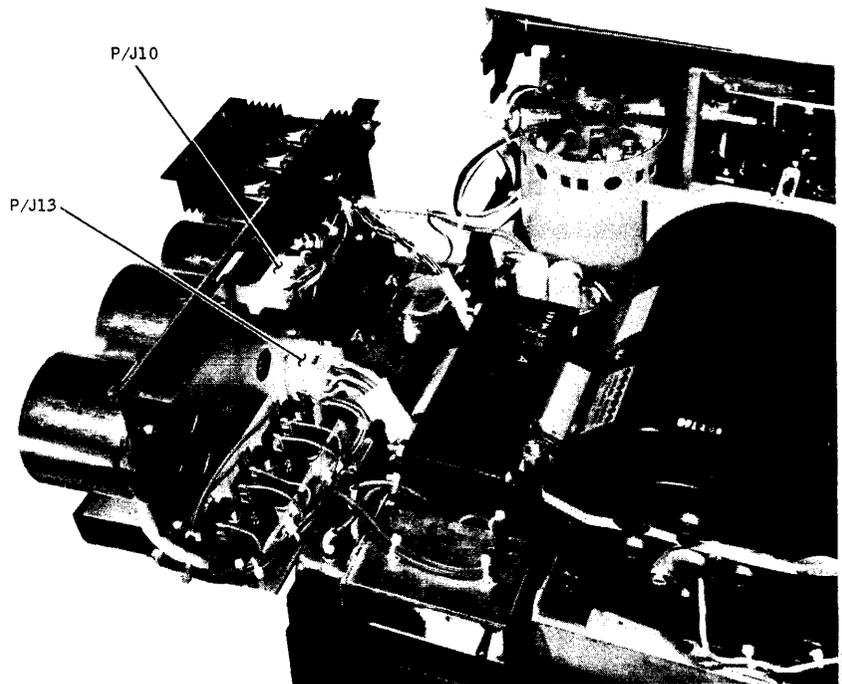

Figure 3-14. Power Supply Cable Dressing
4. With the power supply swung open (Figure 3-14), disconnect plugs P10 and P13 from the bottom side of the chassis. Trace back along the P10 cable, and clip those tie wraps attaching it to the power supply until it is free of that assembly.
8. To reinstall the power supply assembly, reverse this procedure. Dress all cable and wire leads as close to their original positions as possible (see Figure 3-14), and replace all plastic tie wraps clipped during removal. Also make sure that the connection from the chassis ground to logic ground is reinstalled properly and that the voltages select jumper on top of terminal board TB2 matches the assembly removed and the available voltage. Last, ensure that the wire harness is tied in place and that the power supply will close without contacting the wire harness.